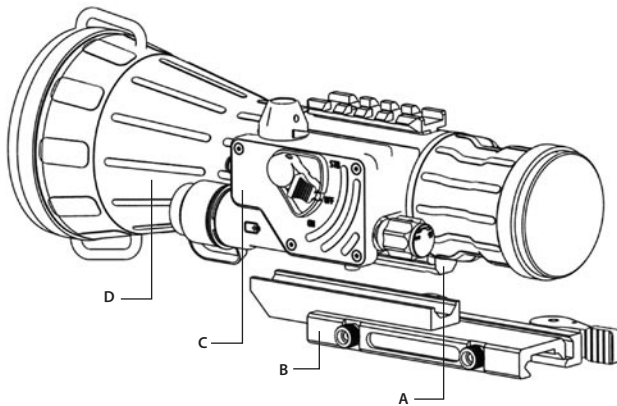

FIGURE 2-1. CO-LR NIGHT VISION CLIP-ON SYSTEM
The CO-LR consists of two primary parts, as shown in Figure 2-1: the night vision device (hereafter referred to as NVD), and the quick release mount system, or mount. The CO-LR is delivered already assembled: the mount (B) should be secured to the rail (A) of the NVD (D) with two screws.